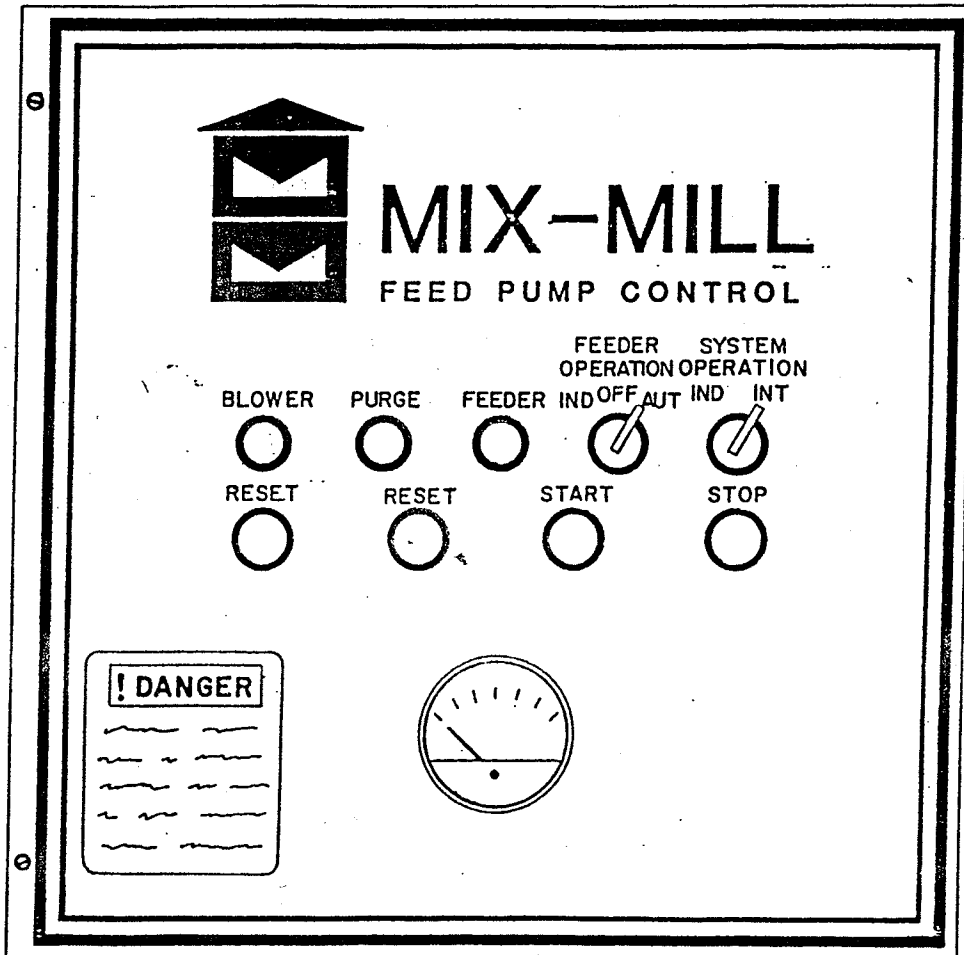

fig. 6 FEED PUMP CONTROLS
C. Operation of Feed Pump with Feeder on Inlet Hopper (Refer to fig. 6)
D. Operation of Feed Pump with Feeder on Mixer-Grinder (Refer to fig. 6)